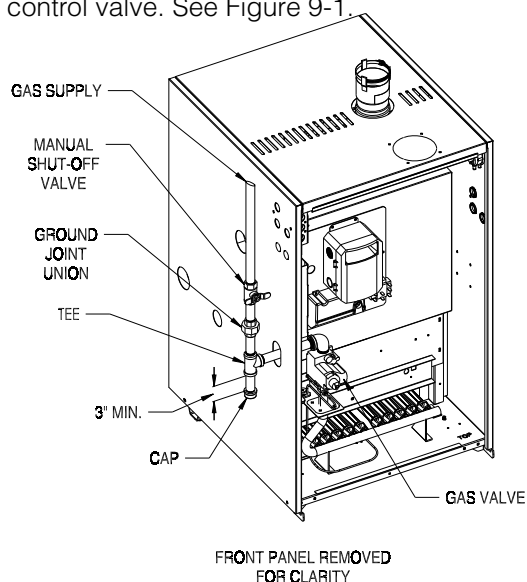

Figure 9-1: Gas Connection To Boiler
- C. Install sediment trap, ground-joint union and manual shut-off valve upstream of boiler gas control valve. See Figure 9-1.